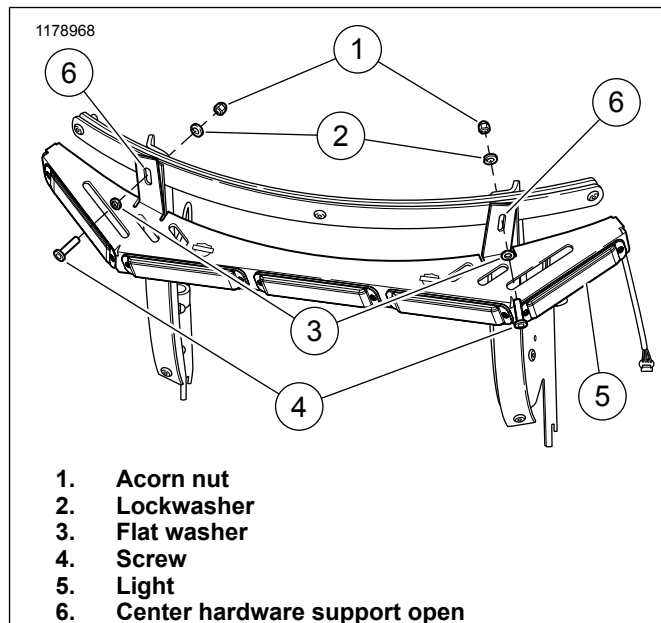

Figure 3. Attaching Hardware (Shield Removed for Clarity)
4. See Figure 3. Align light (5) with center hardware support openings (6).
5. Install the **new** screw (4) and **new** flat washer (3) in the front side of the windshield's center hardware support openings.
6. Install the **new** lockwasher (2) and **new** acorn nut (1). Tighten.